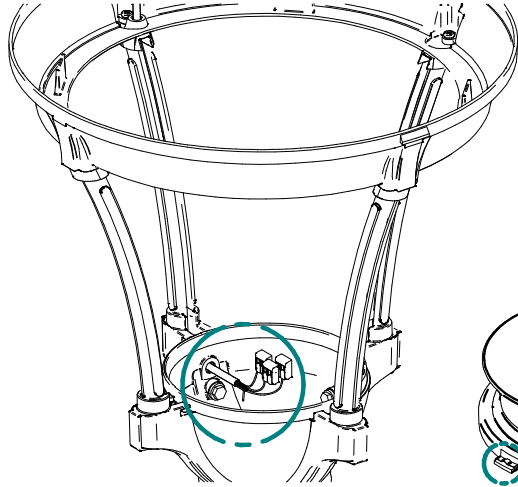

FIG. 5-1
1. Connect the provided waggo connectors to the power cable, use Brown, Blue and Black wires (see FIG 5-1). Cap off green/yellow and gray wires, these will not be used.